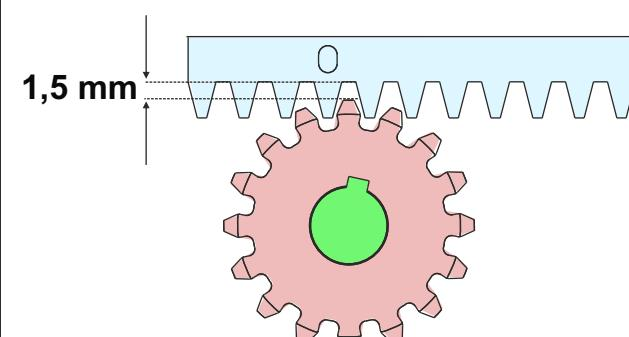

Fig. 10
- 6.6. To avoid that the gate weights down the pinion - Fig.10 - lift up the whole rack of about **1,5 mm**.